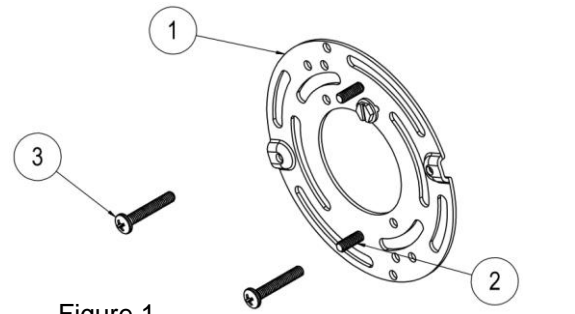

Figure 1
- Place the diffuser assembly (3) and hardware off to the side.
- Install two 8-32 x .5" screws (2) facing outward onto round mounting bracket (1) as shown on **Figure 1**. Then secure bracket to junction box (not supplied) with two 8-32x1" screws (3).
- For none-dimming fixture.** Fixture will operate normally w/o connection to any dimmers. Connect white fixture lead to white (N) wire from supply power source. Connect black fixture lead to black (L) wire from supply power source. Gray and purple wires are not to be used.
- For TRIAC dimming.** Connect white fixture lead to (N) wire from dimming source per dimmer wiring instructions. Connect black fixture lead to (L) wire from dimming source per dimmer wiring instructions. Make sure to cap gray and purple wires separately to prevent shorting.
- For (0-10V) dimming fixture.** Connect gray wire from the fixture to the dimmer source gray wire. Connect purple wire from the fixture to the dimmer source purple wire. Connect white fixture lead to white (N) wire from supply power source. Connect black fixture lead to black (L) wire from supply power source.